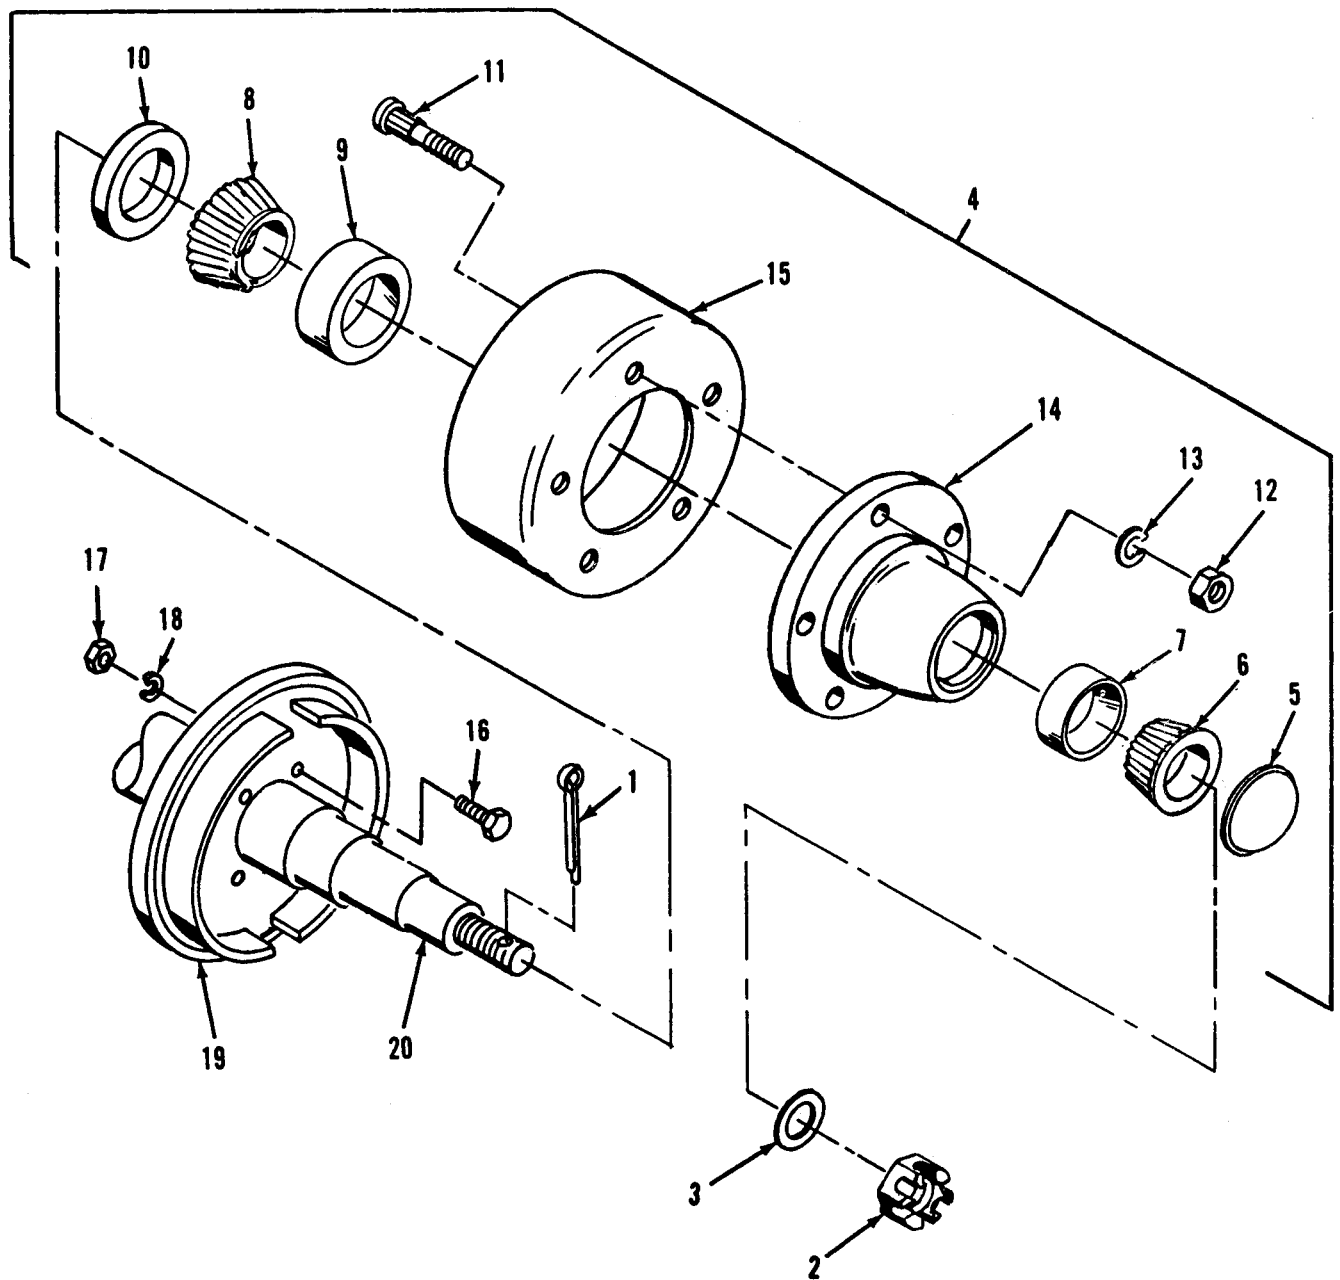

Figure 4-12. Rear axle assembly, exploded view
a. COMPONENT REMOVAL. Refer to figure 4-12 and remove components from the rear axle in the order of index numbers assigned. Pay particular attention to the following:
5. Use a suitable press to remove studs (11).
Legend to figure 4-12:
Refer to figure 4-12 and install components in the reverse order of index numbers assigned. Pay particular attention to the following: